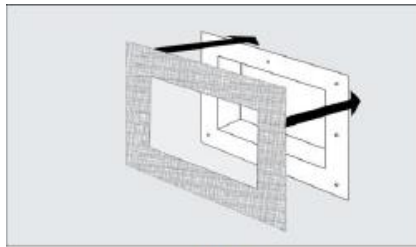

Fig. 4
Step 6: Using a sharp knife, cut along the trimmed line of the Connection Sheet (A), to fully remove the centre portion.
Step 7: Starting by folding down 30mm of the backing release paper at the top edge, apply the Connection Sheet (A) over the entire Niche face and onto the primed wall board area. Press firmly to ensure total adhesion (fig.4)